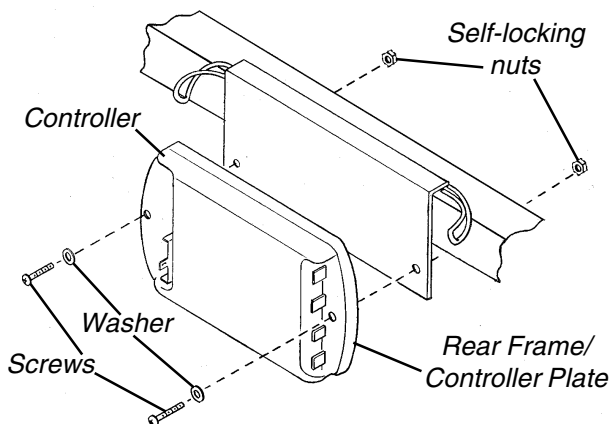

FIGURE 2 - REMOVING/INSTALLING CONTROLLER FROM/TO CONTROLLER PLATE
- C. **PANTHER MX - 4 (FIGURE 2):**
1. Remove the two (2) screws, washers, and self-locking nuts from the rear frame.
- A. **LYNX SX - 3 and LYNX SX - 3P (FIGURE 2):**
3. Insert the two (2) short screws through the controller and the controller plate, and secure them with the washer and self-locking nut. Securely tighten.
4. Position the wires in the two (2) retaining tabs.
5. Secure the wires to the two (2) retaining tabs using **NEW** cable ties.
- B. **LYNX LX - 3 and PANTHER LX - 4 (FIGURE 2):**
2. Insert the two (2) screws through the controller and the rear frame, and secure them with the washers and self-locking nuts. Securely tighten.